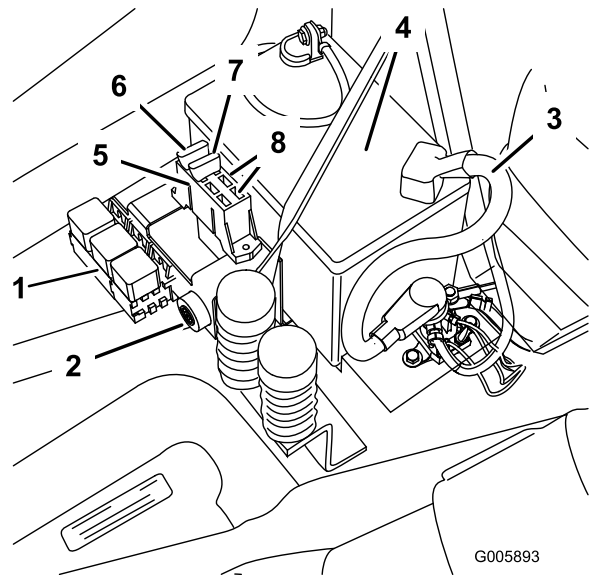

Figure 45
1. Raise the seat to gain access to the fuse holder (Figure 45).
2. To replace a fuse, pull out on the fuse to remove it (Figure 45).